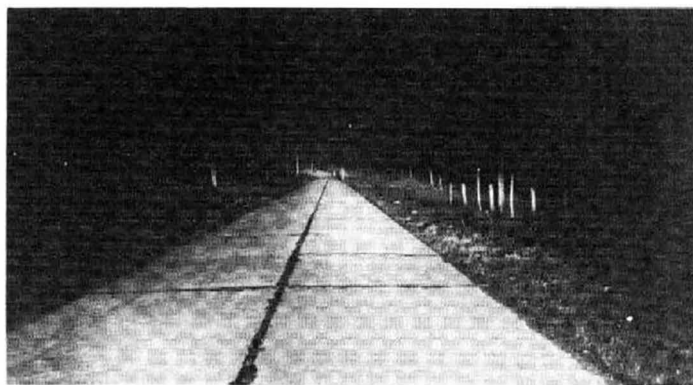

Fig. 45—Country (Upper) Beam
1. A country (upper) beam (Fig. 45) is designed to illuminate the road evenly for considerable distance ahead of the car. This beam is for use on the open highway when no other vehicles are approaching.